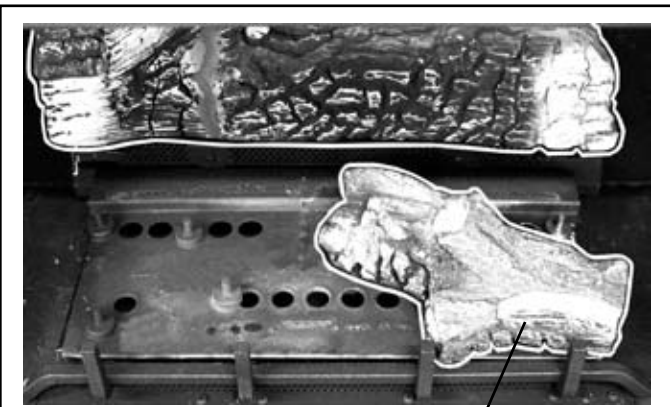

Figure 23 Front Right Log
2. Place the Front Right Log onto the two corresponding locating pins as shown in **Figure 23**.